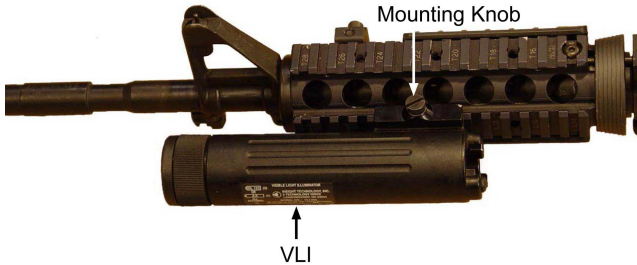

Figure 3-50. Mounting Visible Light Illuminator
- (1) Loosen the mounting knob. The knob has normal right hand threads.
- (2) Turn the knob counterclockwise (approximately 5 or 6 full turns from full closed position) until a positive stop is felt. Refer to Figure 3-50.